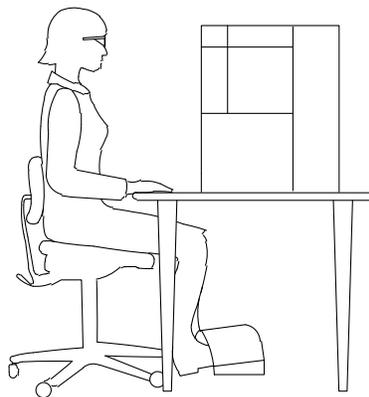

Figure 11
The location of the terminator in relation to the operator's position is extremely important in terms of both safety and maximum efficiency. Studies have repeatedly shown that operator fatigue will be reduced, and greater efficiency achieved, if: (1) the bench is of appropriate height, preferably with sound-deadening rubber mounts; (2) the terminator is properly located on the bench with ample work areas on both sides to facilitate work flow; (3) the operator uses a swivel chair with padded seat and back rest which are independently adjustable; and (4) the foot switch is placed on a rubber mat to maintain its movability, while preventing it from sliding unintentionally. Refer to Figure 11.